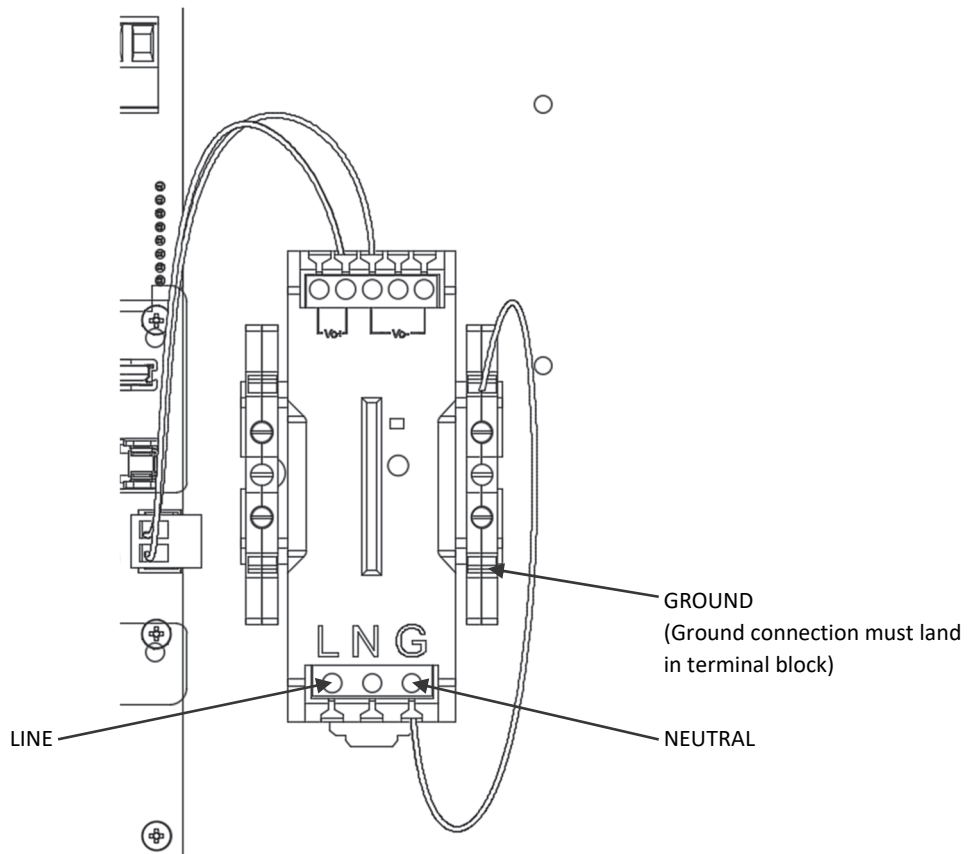

Figure 7.0
2. Review Figure 7.0.
4. See TERMINAL BLOCK AND POWER SUPPLY WIRING section for power input details (Figures 7.0).
Input power must be 100-240 VAC, 50/60 Hz. Make the following connections inside the controller (Figure 7.0).